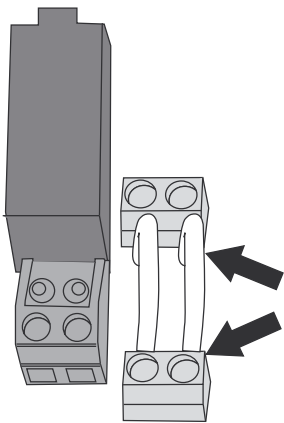

Fig. 11 Changing output 7 or 8 to pump control. First remove wire loops
2. At the relevant terminal block, remove the wire loops which are connected perpendicularly, see Fig. 11.